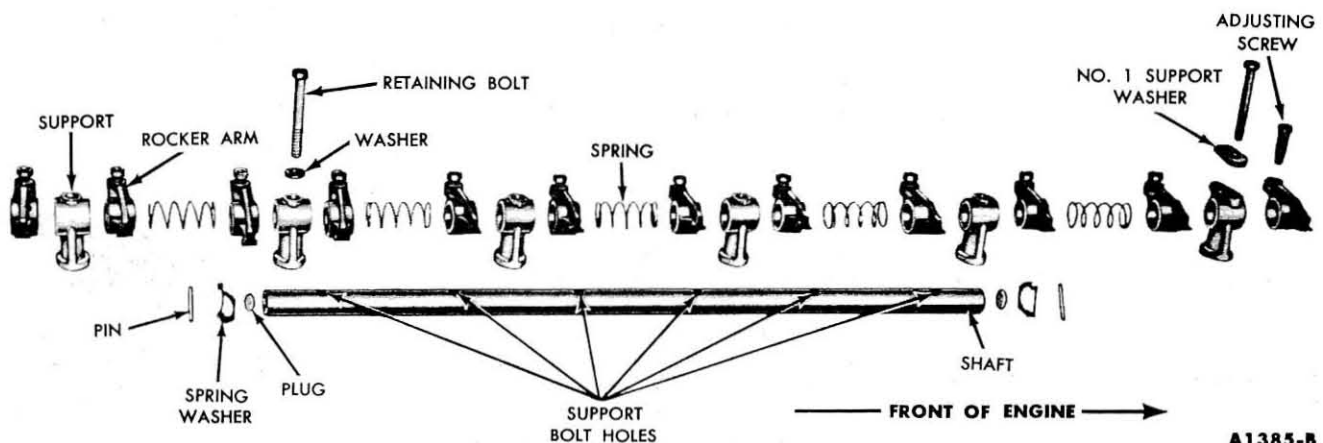

FIG. 24—Valve Rocker Arm Shaft Assembly
4. Install the valve rocker arms, supports, and springs in the order shown in Fig. 24. **Be sure the oil**